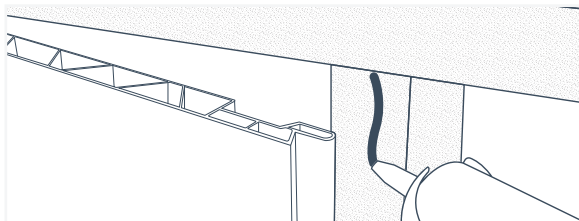

Fig. 44
7. Lift the tongue of the existing adjacent panel and apply a 1/2" thick bead of silicone along the stud behind it (Fig. 44).